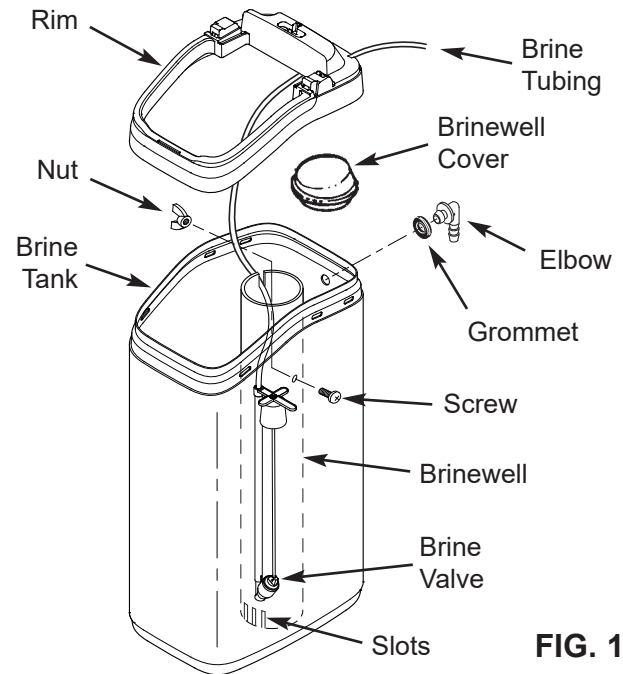

FIG. 12
- a. Snap the rim into place on the brine tank (See Fig. 12).
- c. Lower the brine valve into the brinewell. Push the tubing into the brinewell top slot (Fig. 12) and route it out through the hole in the back of the rim.